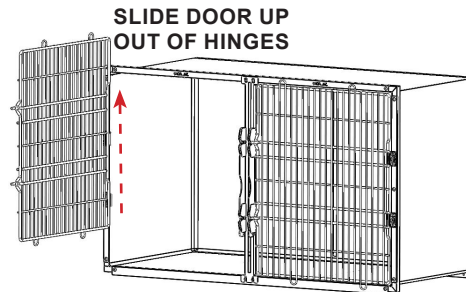

FIGURE 2.4 - Door Removal
**STEP 2:** Lift the door up, sliding the bushings out of the hinge assembly. Set away from the assembly area. See FIGURE 2.4